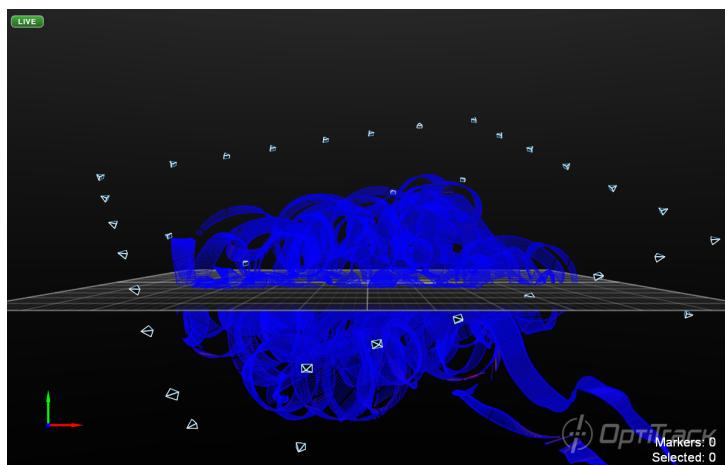

Figure 30: The wandering path displayed over the 3D perspective view after calibration result is accepted. Source: link
Step 3: Ground Plane and Origin: The final step of the calibration process is setting the ground plane and the origin. After the calculation has completed, you will see cameras displayed in the **3D view pane** of Motive (figure 30). However, the constructed capture volume in Motive will not be aligned with the coordinate plane yet.